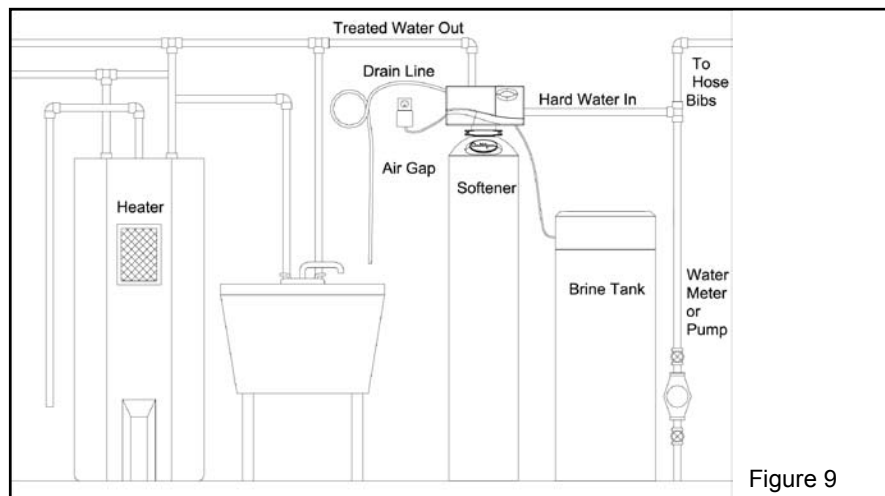

Figure 9
Refer to figure 9 for system placement.
- Slip the white nut over one end of the tubing and press the plastic insert into the end of the tubing (Figure 9). Connect to the brine valve and tighten nut.
- Slip the white nut over one end of the tubing and press the plastic insert into the end of the tubing (Figure 9). Connect to the brine connection on the valve and tighten nut.